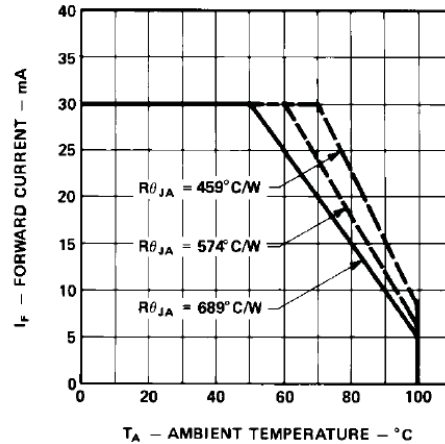

Figure 4. Maximum forward dc current vs. ambient temperature. Derating based on $T_{J \text{ Max.}} = 110^\circ\text{C}$.
2. Derate linearly as shown in Figure 4.